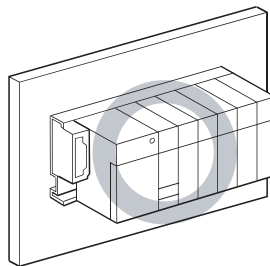

Figure 10.20 Orientation in which modules can be mounted
(2) Module mounting orientation
- Install the programmable controller in the orientation in Figure 10.20 to ensure good ventilation for heat release.